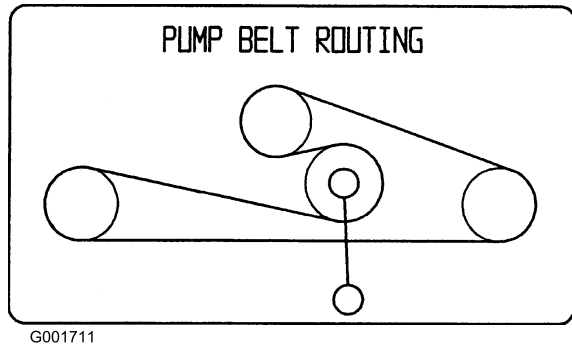

Figure 61
pulleys (Figure 61). Remove belt between pulleys.
2. Install new belt around engine and hydro pump pulleys (Figure 61).
3. Pull spring loaded idler down and align below traction belt. Release the pressure on the spring loaded idler (Figure 61).